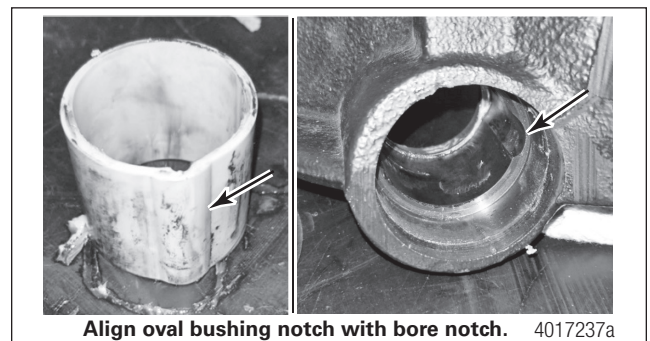

Figure 8.14 Oval Bushing Installation
1. Align the new oval plastic bushing notch with the corresponding notch in the housing. Figure 8.14.